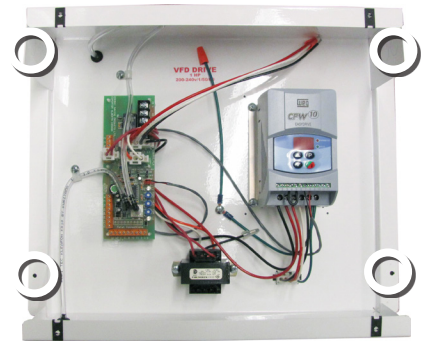

Fig. 11
- 11.** Using 5/16" nut driver, secure external box to air handler in place of the large door, using screws provided in all four corner holes. (Fig. 11)